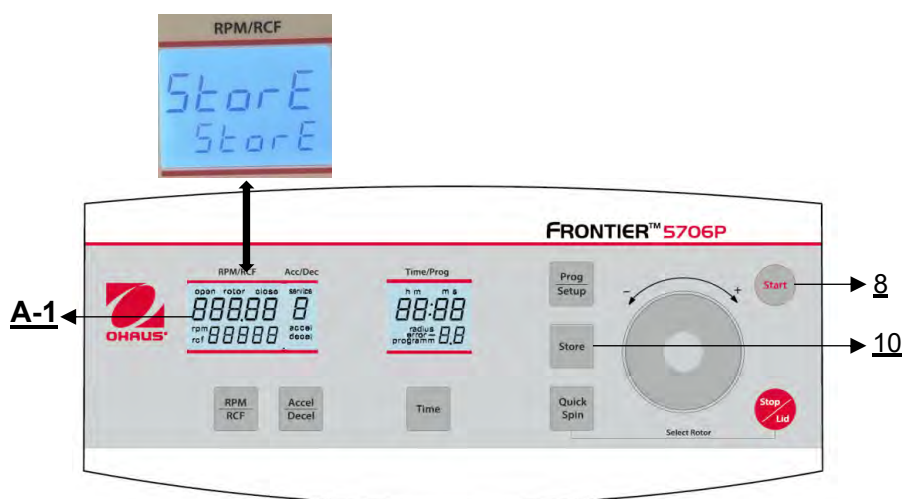

Figure 29
All changed settings must be confirmed by the key **Start**(8) or **Store** (10). The word **Store** appears in the display **RPM | RCF** (A-1) – Only then the pre-selections are valid (see Figure 29). After you have stored the settings, you can change to normal program mode again by switching off the centrifuge for a short while.